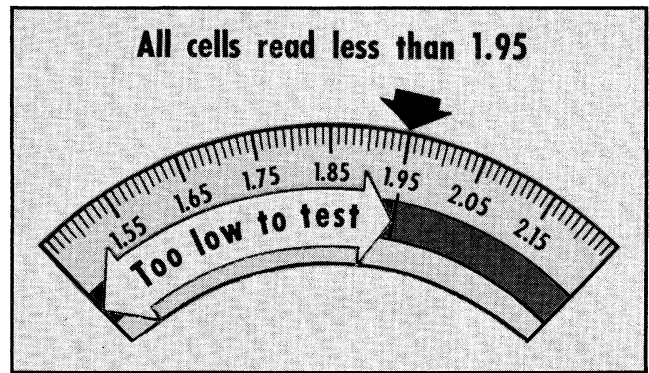

Fig. 11-8 Boost - Charge and Retest
d. Discharged Battery — Boost-Charge and Re-test (Fig. 11-8).